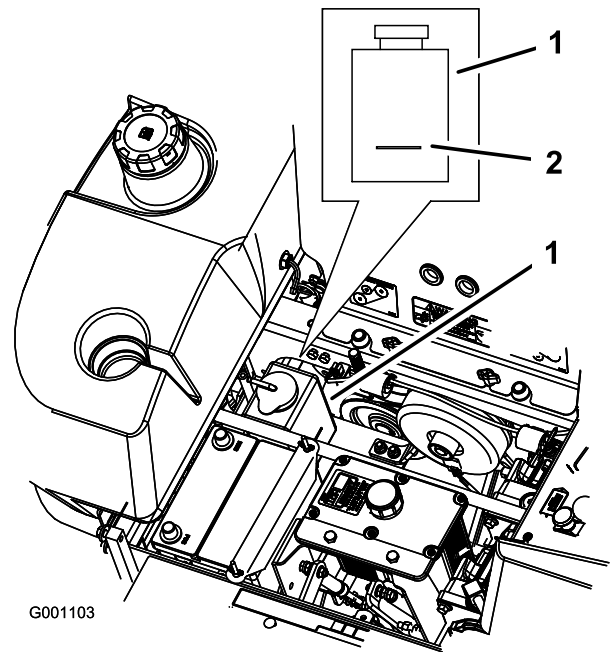

Figure 78
3. With the engine cool, check the overflow bottle level. The fluid needs to be up to the bump on the outside of the overflow bottle (Figure 78).
4. If the coolant level is low, add a 50/50 mix of extended life antifreeze/Dex-Cool® and water to the overflow bottle (Figure 78).
5. Add the 50/50 coolant mix to the overflow bottle and fill it to the indicator line on the bottle (Figure 78).